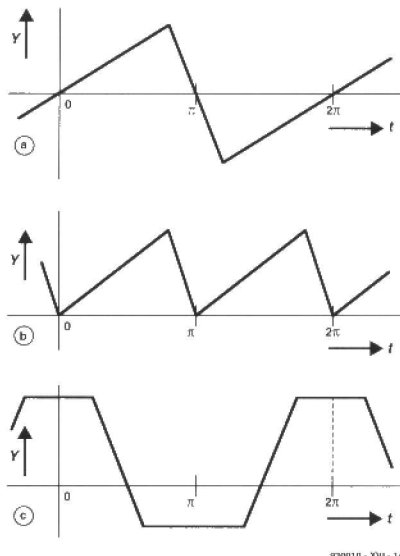

Fig. 142
1. To what categories do the waveforms of **Fig. 142** each belong. In each case state what elements you would expect to find in their Fourier series.